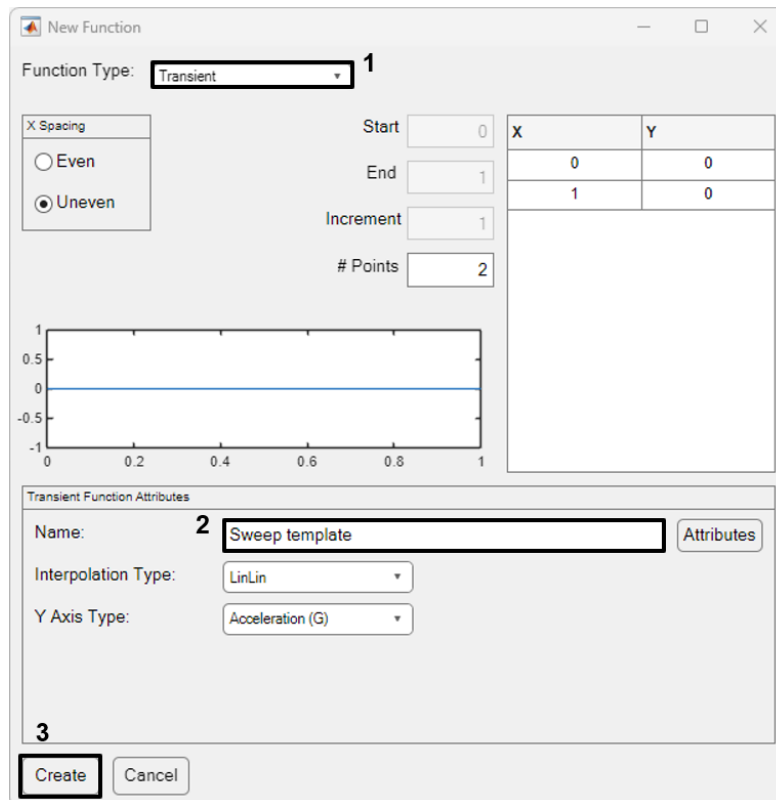
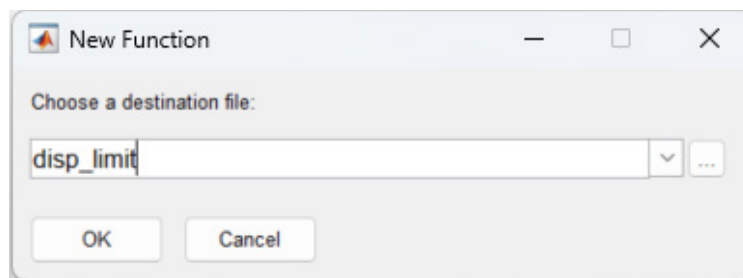
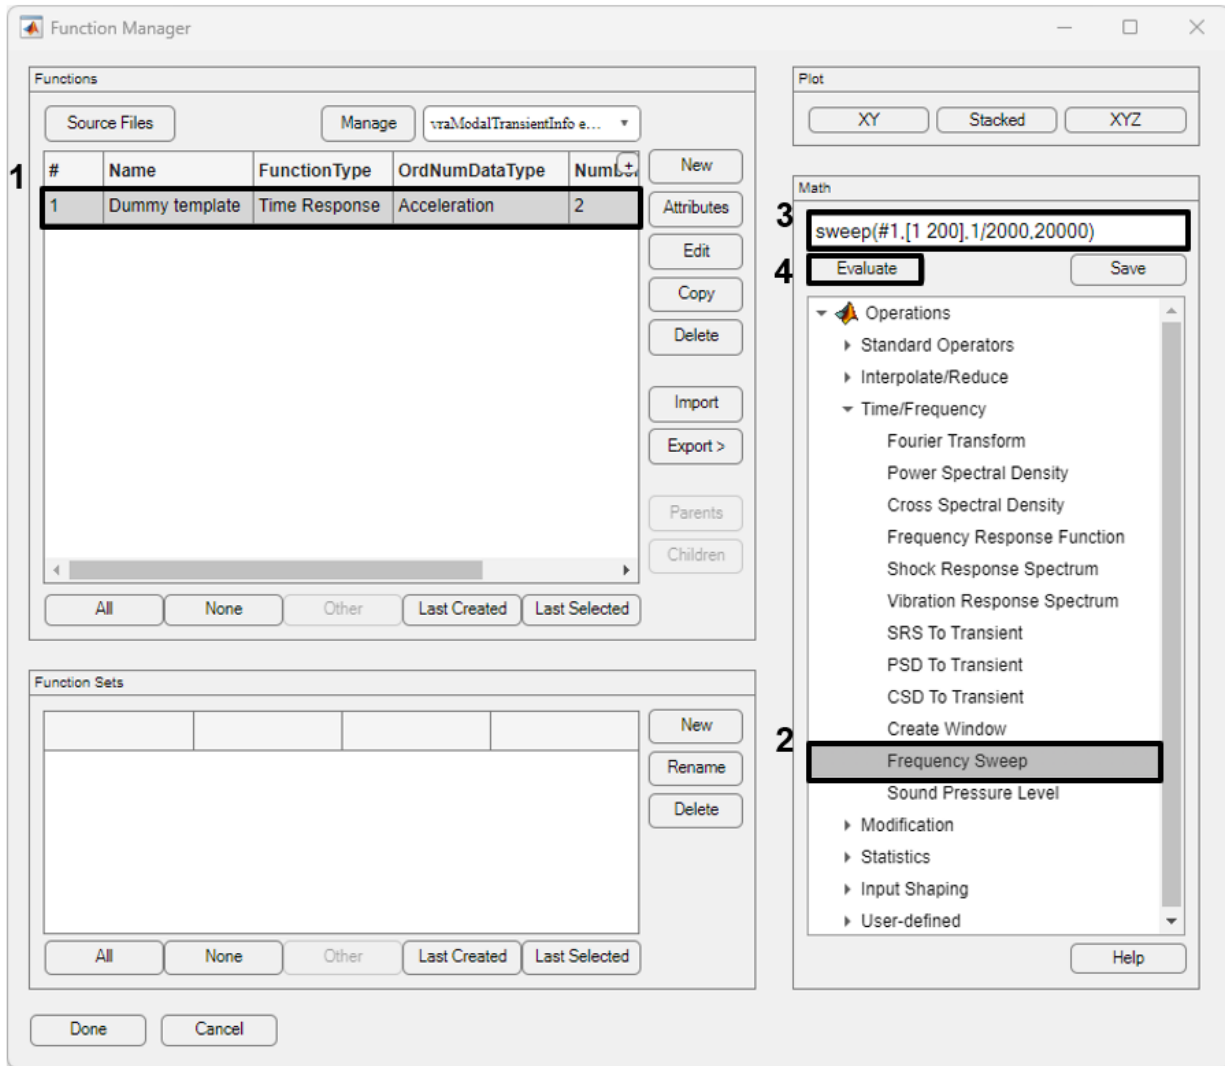

Figure 4-127. Create a dummy transient function to use for the sine-sweep creation.
Figure 4-128. Save the dummy function to the disp_limit file.
Figure 4-129. Create the frequency sweep function to be used for the base excitation.
first create a template function to use for the frequency sweep creation as described in the help for Frequency Sweep, which you can display by selecting Frequency Sweep from the *Time/Frequency* menu in the math operations and clicking the *Help* button (see Figure 4-129). Create the function by clicking on the **New** button in the Function Manager. Select the *Transient* function type and change the function name to "Sweep template" (Figure 4-127), and then save the template function to a new file "disp_limit.fcn" (Figure 4-128).
7. In the Function Manager, select the template function you just created as shown in Figure 4-129. Open the *Time/Frequency* category of the math operations and double-click on *Frequency Sweep* to place the frequency sweep operation into the math edit block. Edit the expression to set the frequency range to 1–200 Hz using a